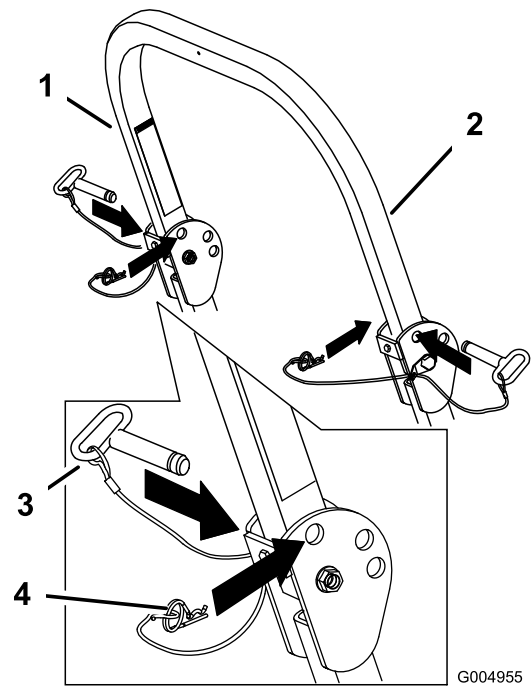

Figure 8
1. Remove the hairpin cotters and remove the 2 pins (Figure 8).
3. Install the 2 pins and secure them with the hairpin cotters (Figure 8).
4. To raise the roll bar, remove the hairpin cotters and remove the 2 pins (Figure 8).
5. Raise the roll bar to the upright position and install the 2 pins and secure them with the hairpin cotters (Figure 8).